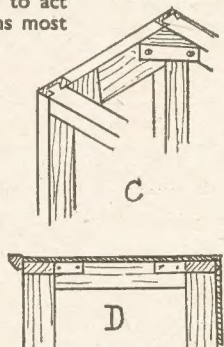

Fig. 3—The top of the cabinet
Fig. 1 shows a front elevation and a side section, from which dimensions can be taken. Construct the two side pieces first. These sides are framed up from  $\frac{1}{2}$  in. by 2 in. wood for the uprights, and  $\frac{1}{2}$  in. by 3 in. wood for the rails, except the centre one which can be 2 ins. wide. A shouldered mortise and tenon joint is used at top and bottom of these frames, as at (A) in Fig. 3, and an ordinary tenon for the centre rails, as shown.
The frames, we can describe them more accurately as the sides now, are fitted together as follows. At the top, as at (C), in Fig. 3, a  $\frac{1}{2}$  in. by 2 in. rail is lap dovetailed across at front and back.
Now cover the top of the cabinet with the plywood, nailing and gluing it down evenly all over, and cover the cut edges and sides and front, either with a small moulding to form a modest cornice, or just a strip of wood, planed to a bevelled edge, as in the detail, Fig. 3 (D).